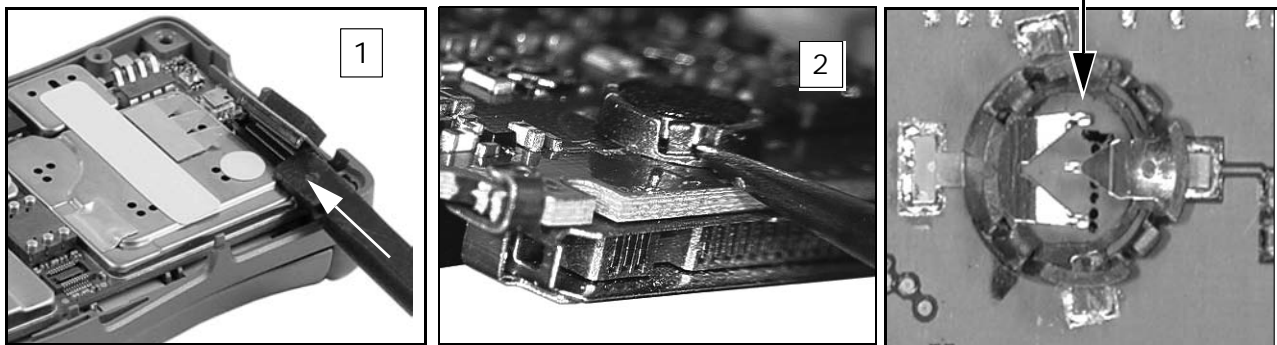

Figure 7-15.
1. Insert tip of black stick under narrow side of 50-pin flex connector ≤ 2 mm. Gently pry upwards, then repeat on other narrow side until connector releases (see Figure 7-15).